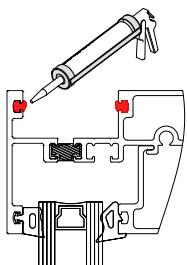

FIG. 1
- Identify which openings will have 4000 Phantom Vent Installed and apply sealant across interior/exterior gasket race at the sill and head only. **See FIG. 1**